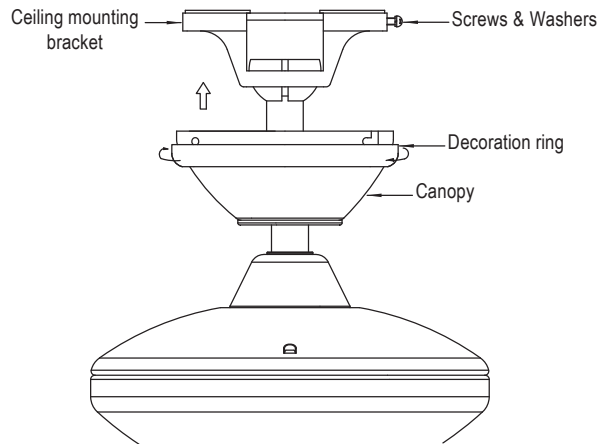

Fig. 12
**Step 2.** Slide the canopy up to ceiling and attach the canopy to the ceiling mounting bracket using 4 screws at the top edge of the mounting bracket. Insert each screw through the canopy mounting hole and into the mounting bracket. Tighten all screws securely. (Fig. 12)